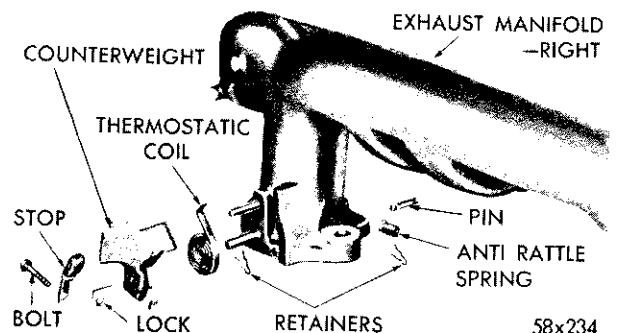

Fig. 6—Manifold Heat Control Valve
a. Disassembly (Fig. 6)
(1) Loosen retaining nut and remove counterweight, lock and stop from end of shaft, exposing the thermostatic coil.
(2) Unhook coil from pin and remove by prying out of valve shaft slot.
(3) If valve shaft is frozen in manifold, apply manifold heat control valve solvent, Part No. 1879318, and allow to stand several minutes. Loosen by rotating shaft back and forth until shaft turns easily.